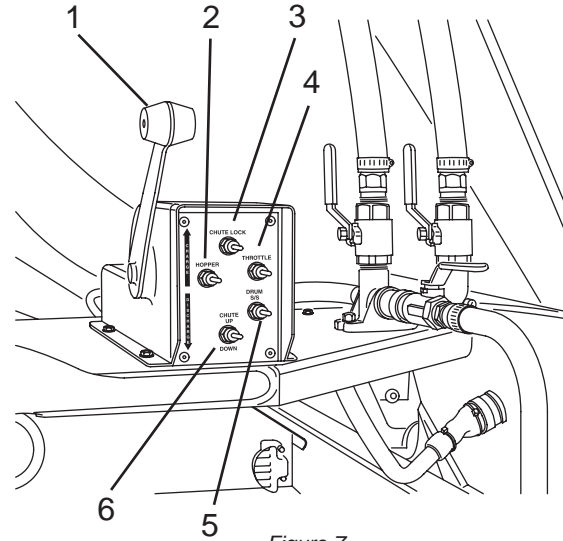

Figure 7
If the rear pendant (Figure 7, Item 1) is lost, or becomes damaged or faulty, a jumper plug (Figure 7, Item 3) must be installed in the rear pendant socket to allow operation of control functions from the cab control box.
2. Disconnect the rear pendant harness connector (Figure 7, Item 2) from the rear pedestal.
3. Install a jumper plug (Figure 7, Item 3) into the rear pendant socket.